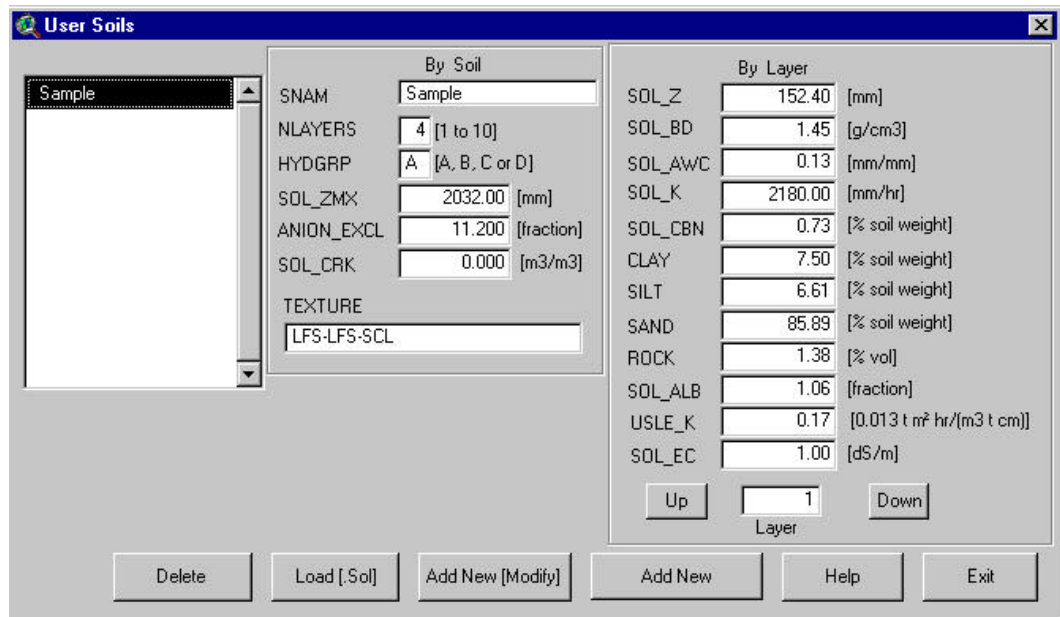

Figure 14.4
- b. The data for the soil will be displayed (Figure 14.4). A complete description of the variables is provided in the *Soil and Water Assessment Tool User's Manual, Version 2000, Chapter 22*.